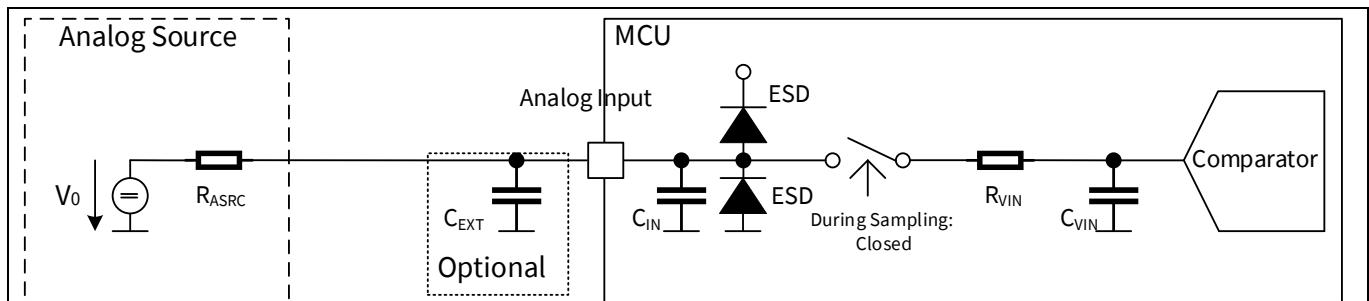

Figure 33 Analog input with optional external buffer capacitor
Figure 33 shows a principal circuit between the sensor, the analog source  $V_0$ , and the analog input.
( $t_{CYCLE}$ ), the period between two acquisitions of a channel, must be longer accordingly (see Figure 33). After the cycle time, there should be either no or a neglectable voltage difference between the analog source  $V_0$  and the analog input (AN) before the next acquisition. When a channel is sampled twice or more directly one after the other, the following equation must be fulfilled:  $t_{CYCLE} \leq t_{ACQ}$ .